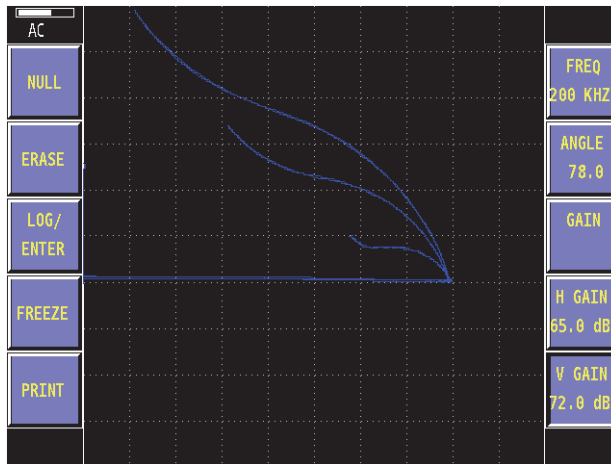

Figure 4-2 Surface flaw detection
7. Slide the probe smoothly over the three EDM notches. The response should look similar to those in Figure 4-2 on page 70. These settings are only guidelines. Some fine tuning may be necessary. This is accomplished by using the **GAIN** and **ANGLE** buttons, and then the SmartKnob.